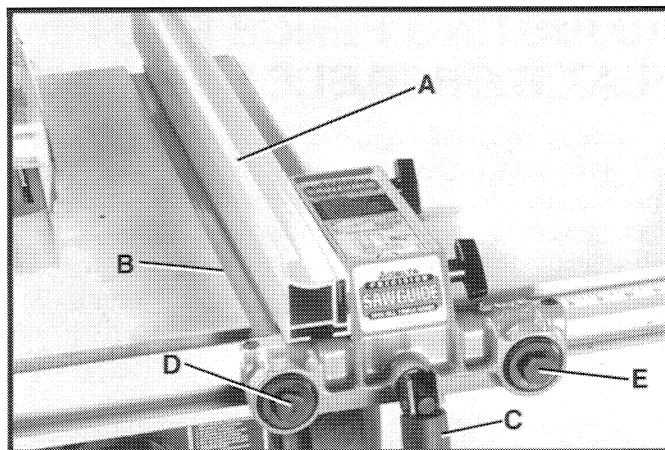

Fig. 75
The fence (A) Fig. 75, should be adjusted so it is parallel to miter gage slots (B). To check and adjust, move the fence (A) until the bottom front edge of the fence is in line with the edge of the miter gage slot as shown, and push down on fence clamping lever (C). Check to see if the fence is parallel to the miter gage slot the entire length of the table. If the rear of the fence must be moved, slightly tighten or loosen one of the adjustment plugs (D) or (E) Fig. 75, using the arbor wrench or 7/8" wrench, until the fence is parallel with the miter gage slot. **IMPORTANT: DO NOT OVERTIGHTEN ADJUSTMENT PLUGS (D) AND (E) FIG. 75. VERY LITTLE MOVEMENT OF THESE ADJUSTMENT PLUGS IS NECESSARY WHEN ADJUSTING THE FENCE PARALLEL WITH THE MITER GAGE SLOT.**